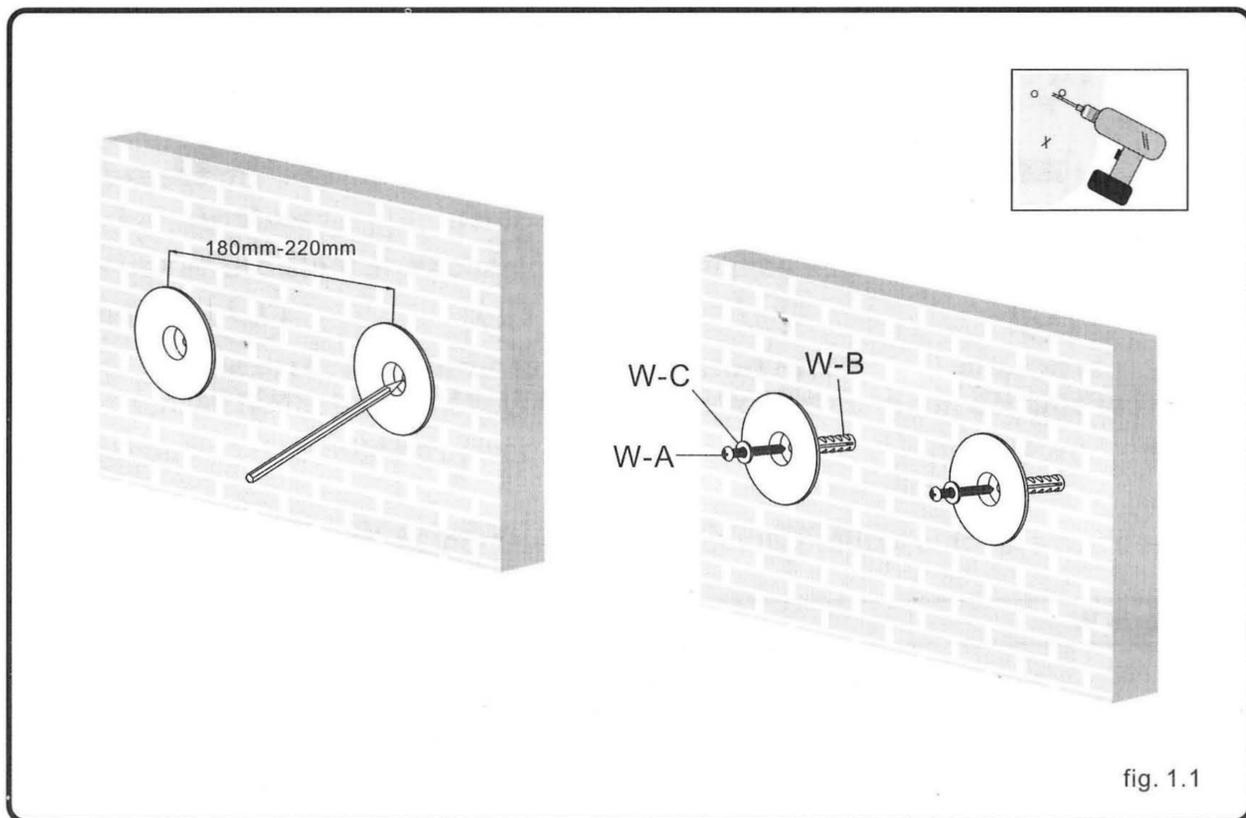

fig. 1.1
- Use the Wall Plate as a template to mark 2 holes locations on the wall, make sure the mounting hold at the same level, as shown in fig. 1.1.
- Pre-drill these holes with a 8mm masonry bit to at least 50mm in depth. Insert a Concrete Anchor (W-B) into each of these holes. Attach the Wall Plate to the wall using 2 Lag Bolts (W-A) and 2 M6 Washers (W-C), as shown in fig. 1.1.